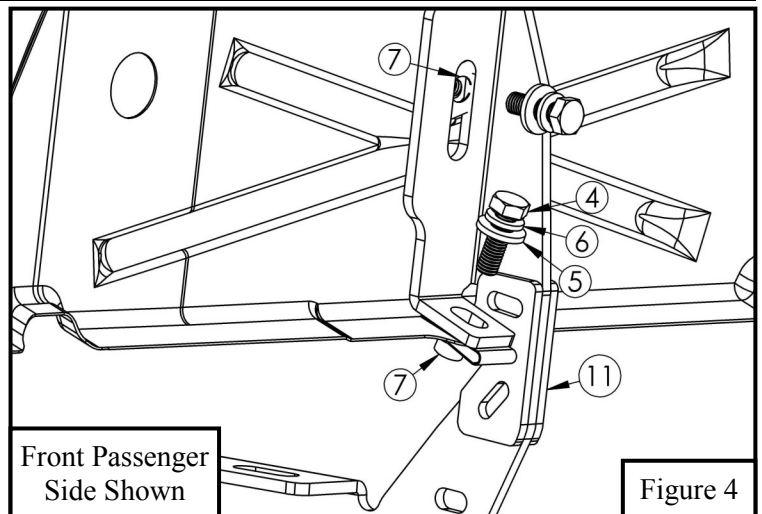

Figure 4
5. Locate (1) Mounting Bracket B (Item 11) and go to the front passenger side mounting location. Loosely secure Mounting Bracket B to the rocker panel using (2) M8 hex head bolt, (2) M8 flat washer, (2) M8 lock washer, and (2) M8 U-Nut Clip. Locate (1) Mounting Bracket C (Item 16) and secure using same hardware at the center passenger side mount location. See **Figure 4**. **Note:** For installation on diesel equipped vehicles follow diesel exhaust fluid tank removal instructions on page 4.